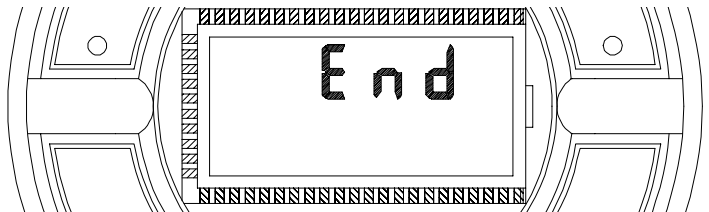

Figure 4. Calibration End Display
- Once this *same* value alternates consecutively with "CAL" for 15 seconds, the display shows **END** and the zero value (FIGURE 4).
Once the same concentration alternates consecutively with "**CAL**" for 15 seconds, the display shows (see FIGURE 4):